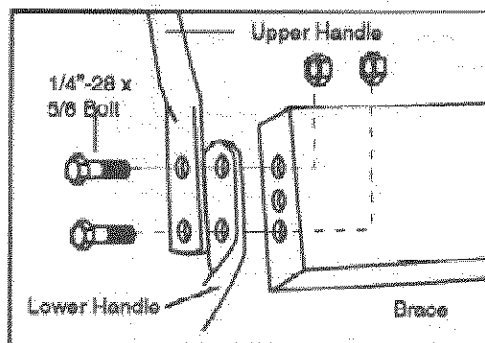

Fig. 1
C. Place the handle brace plate between the lower handle braces and bolt all pieces together with 1/4"-28 x 5/8" bolts. Place a 1/4"-28 nut on each bolt and tighten securely. (refer to Fig. 1)